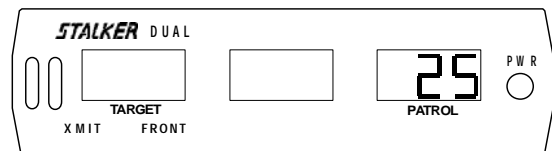
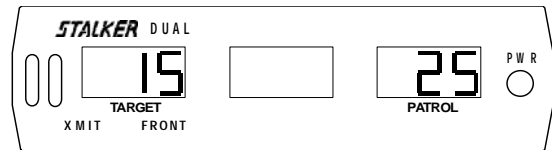

Fig 51
Fig 52
Two (2) tuning forks are supplied for **STALKER DUAL**. The tuning forks are calibrated for 25 mph and 40 mph (40 and 64 kph). To perform the tuning fork test, power the unit ON (press **PWR** switch), select moving mode (press **MOV/STA** key), select the front antenna (press **ANT** key), and place the unit in transmit mode (press **XMIT** key). Strike both tuning forks against a hard nonmetallic surface, such as the heel of a shoe. Quickly hold the lower speed fork approximately two (2) inches in front of the antenna, with the narrow edge of the fork facing the antenna. The patrol window should indicate  $25 \pm 1$  mph (40 kph) (Fig 51). Now move the higher speed fork in front of the antenna with the narrow edge facing the antenna. The target window should register 15 mph  $\pm 2$  (24 kph) (Fig 52), which is the difference in speed of the two forks. Repeat the above test with the rear antenna selected, if installed. *Note: We recommend that the tuning fork test be performed on each antenna. Some departments perform this test both before and after each citation. Check your department policy.*